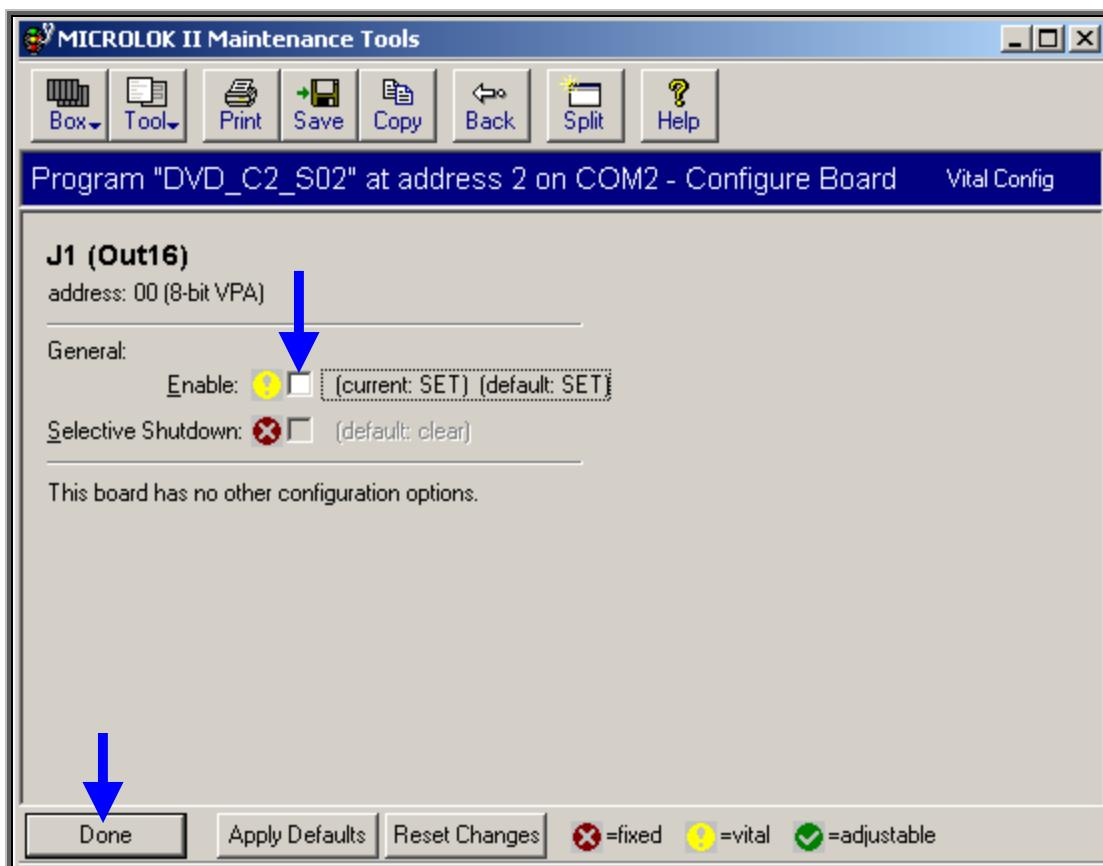

Figure-7.5.1.3
- ◆ User wants to disable the particular board, click the “Enable” selection square box (Refer Figure-7.5.1.3).